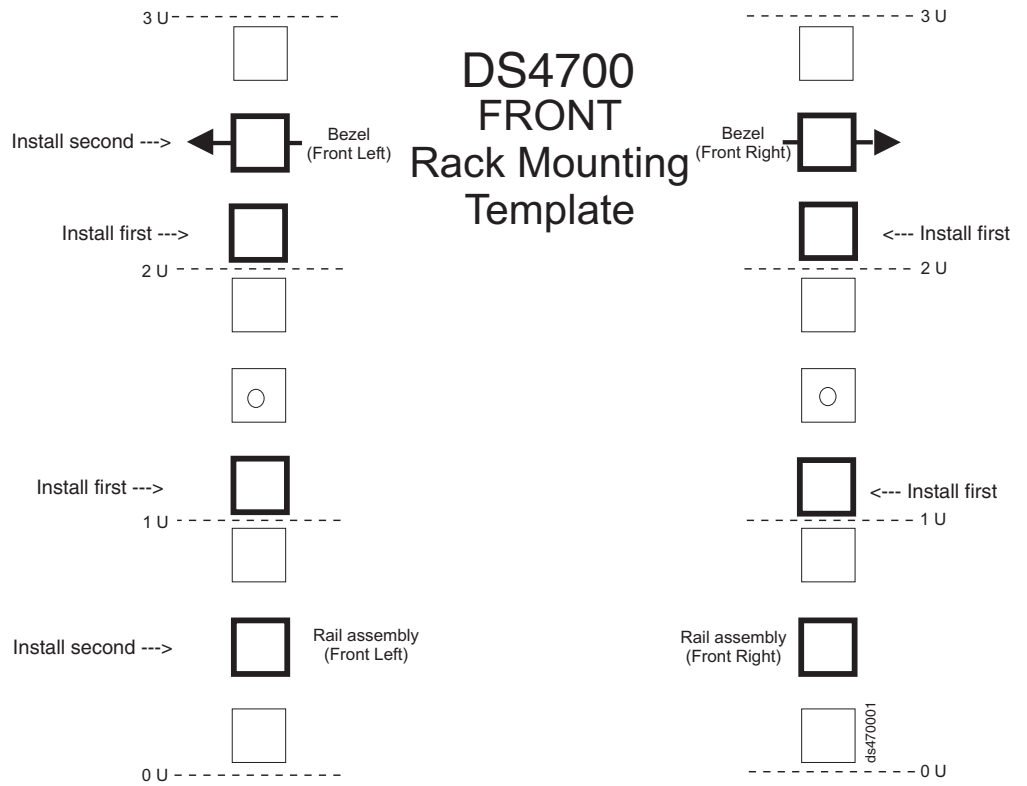
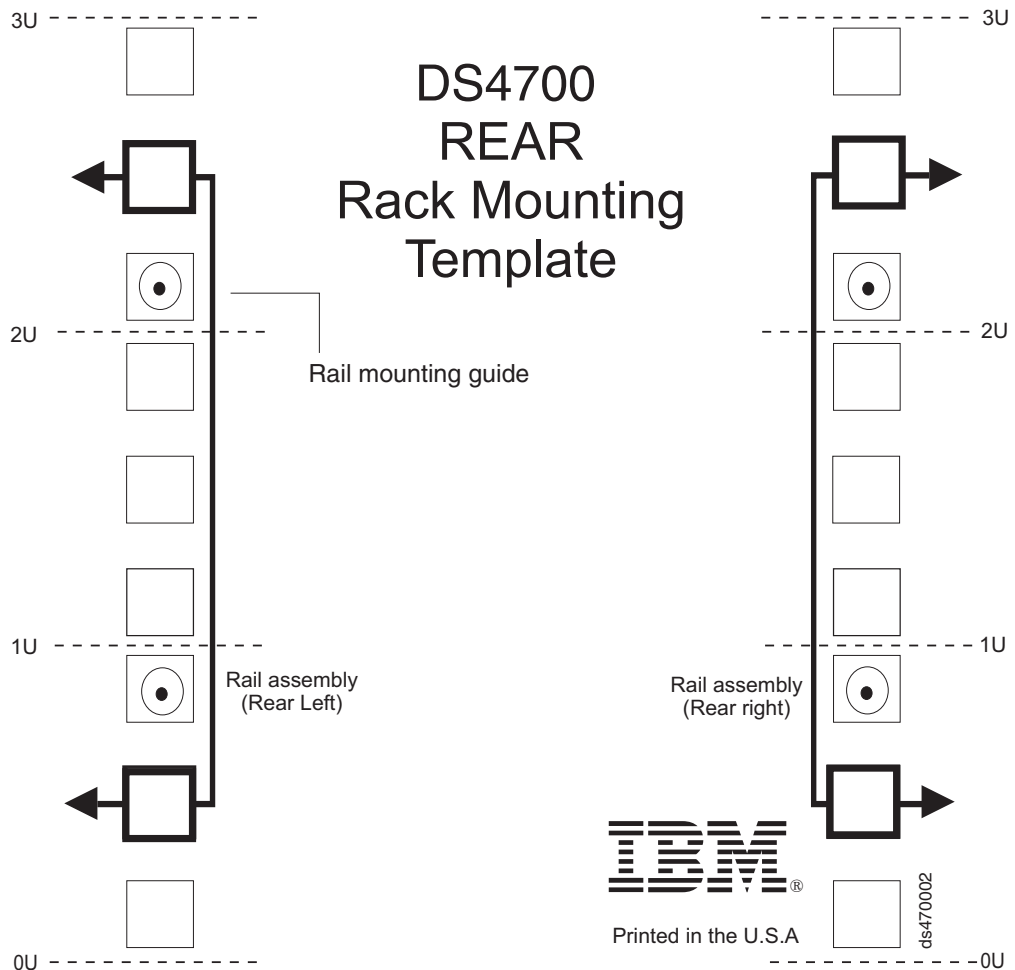

Figure 18. Front rack mounting template
Figure 19. Rear rack mounting template
Use the following templates (Figure 18 on page 37 and Figure 19 on page 38) to identify the proper locations for inserting M5 screws when mounting the support rails and DS4700 Express Storage Subsystem to a rack cabinet. The locations for the M5 screws are highlighted in the templates.
Attention: Use the rack mounting template provided in Figure 18 on page 37 and Figure 19 on page 38 to locate the proper rack mounting holes for installing the support rails into the rack.
- The lip on the rail should line up with the bottom of the storage subsystem (the 0U boundary in Figure 19 on page 38).
- Hold the back of the rail against the inside of the rack-mounting flange. Make sure the rail mounting guide pins are in the correct holes. See Figure 19 on page 38 for an illustration.
Note: Be sure to install the screw labeled *install first* in Figure 18 on page 37.